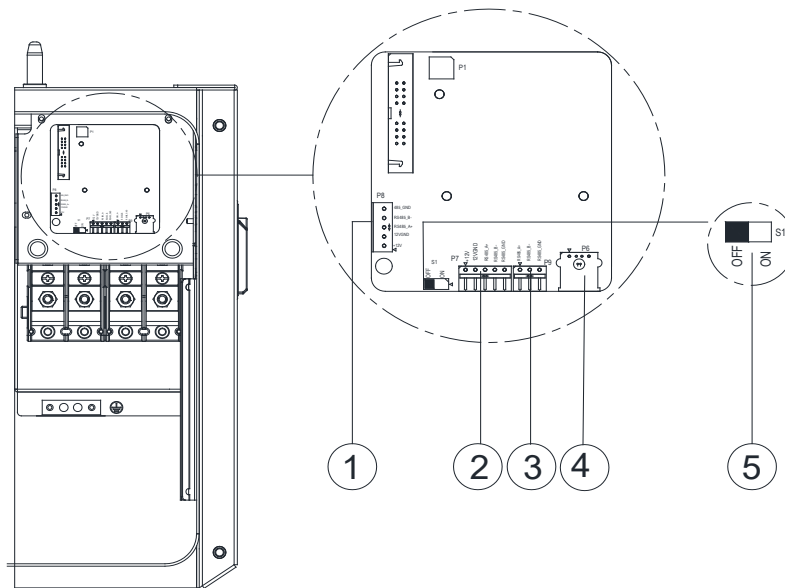
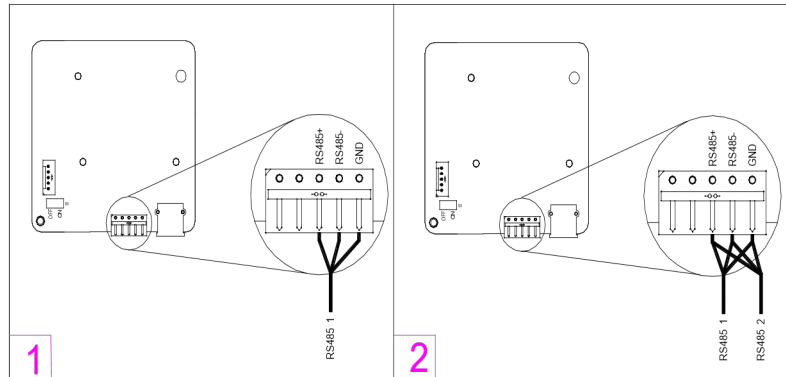

Figure 4-39 Communication Board in the Wiring Box and its connections
Figure 4-40 Connection of Single (1) and Multiple Inverters (2)
- ✓ (3) 18-22AWG communications cables
It is recommended that industrial-grade shielded RS-485 cable be used in lieu of unshielded twisted pair. RS-485 communication cables are connected via the 5-pin connector to the port labeled (2) in Figure 4-39. When creating a network of multiple inverters, the cables are terminated to the same 5-pin connector and 3-pin connector. Figure 4-40 shows a single inverter communication connection in (1) and a network configuration in (2).